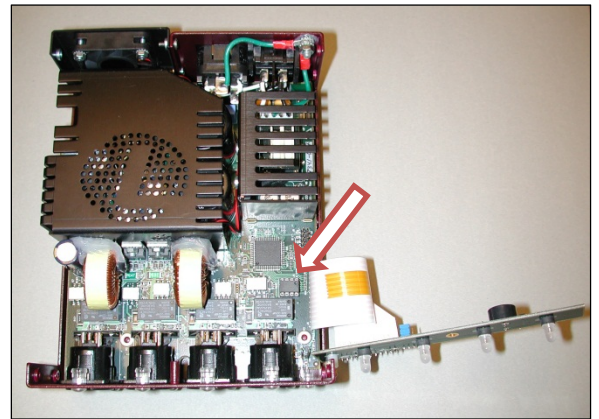

Figure 2: View with LED board unscrewed
4. Next remove the centre screw that holds the LED board in place, this will allow for better access to the memory chip socket, (Figure 2)